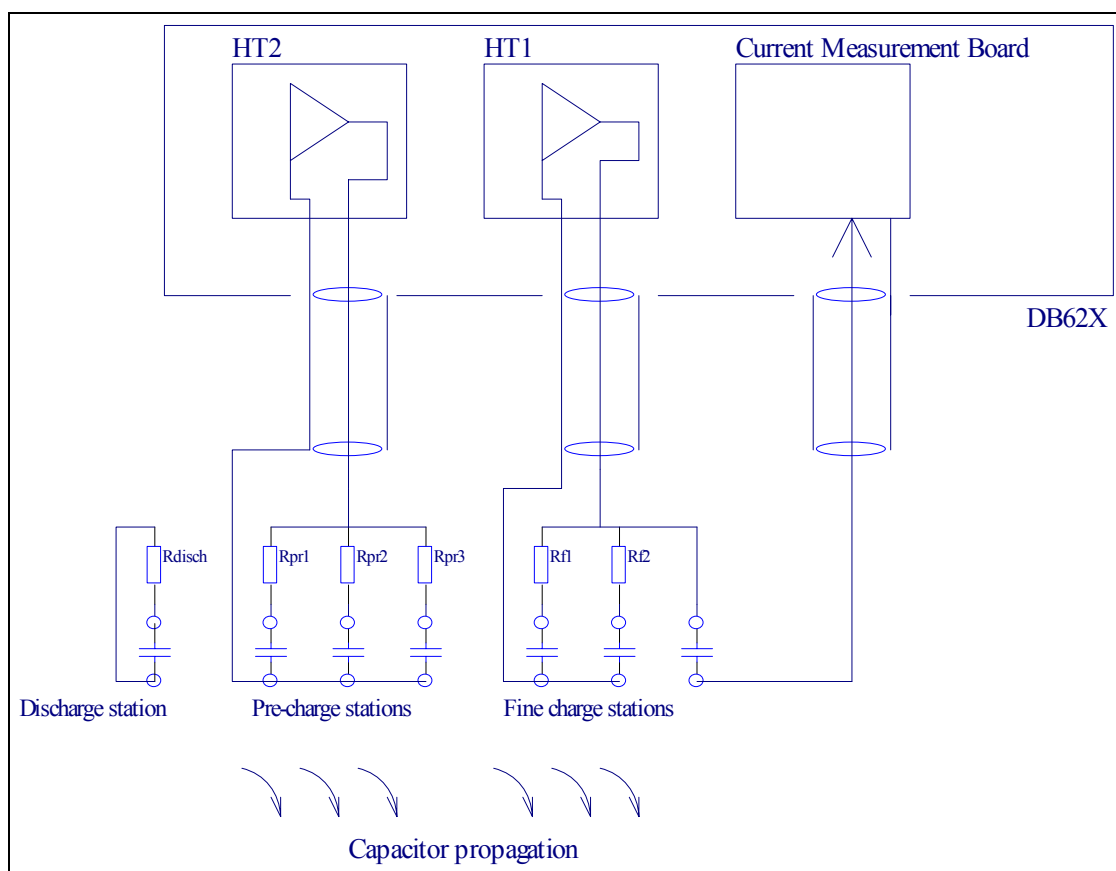

Fig. 6.5.1 Example of IR testing set-up
Fig. 6.5.1 shows the set-up for TH2684 with two HV supplies, one for precharging and one for fine charging and measurement.
For charging foil capacitors with post charge properties it is assumed that the capacitor is charged to the full test voltage already at the first station. The first resistor is given by (1), the last resistor (Rpr3 in figure 6.5.1) should match the following fine charge resistors (see later). The intermediate (Rpr2 in figure 6.5.1) resistors should have values between 10-20 times Rpr1 and Rpr3 .
The fine charge resistors should match the input resistance R_i of the current input amplifier. In TH2684/TH2684A IR tester, this resistor can be switched to either $10k\ \Omega$ or $1M\ \Omega$. In figure 6.5.1 only two fine charge stations are shown, in many cases more than 10 stations are preferred.
Example (figure 6.5.1):
Example (Figure 6.5.1):